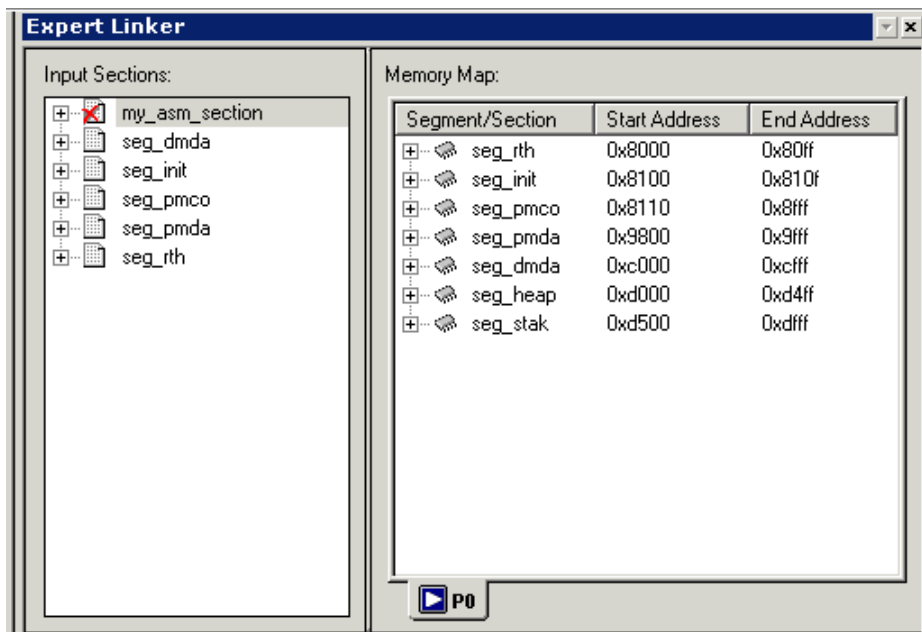

Figure 2-21. Expert Linker Window
4. In the **Project** window, open the **Linker Files** folder and double-click the `dot_prod_asm.ldf` file. The **Expert Linker** window (Figure 2-21) opens with a representation of your file.
The right pane contains a graphical representation of the memory segments that the Expert Linker defined when it created the .LDF file. Change the view mode by right-clicking in the right pane and choosing **View Mode**. Then choose **Memory Map Tree** to display the tree view shown in Figure 2-21 on page 2-30.